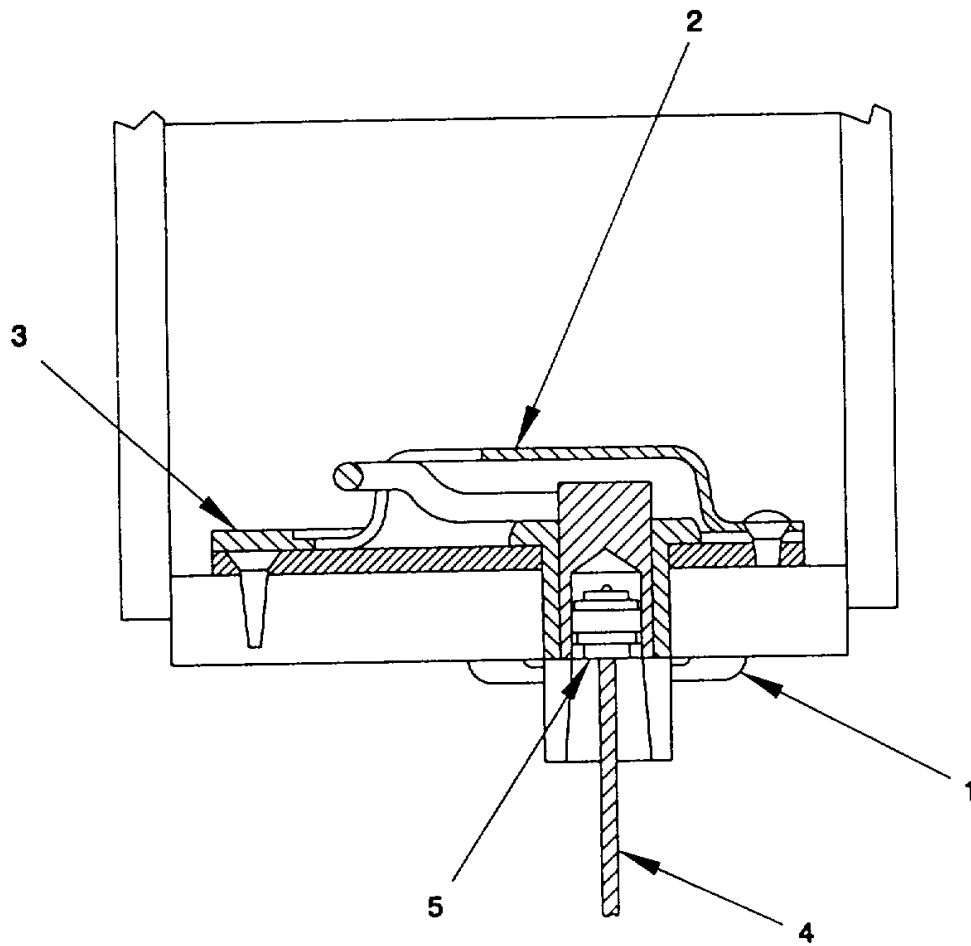

Figure 2-35. Remote Cable Pull Box and Cable, Fire Suppression System, Remove/Install
- a. Remove. (figure 2-35)
- (1) Disconnect the cable operated control head from the 50# CO2 cylinder and disconnect cable from control head. Refer to paragraph 2-41.
- (2) Remove palnut (1) below deck from underside of cable pull box (2).
- (3) Remove three attaching screws (3) on cable pull box (2) above deck, freeing cable pull box and cable
- (4). Lift cable pull box with cable free from recess on deck and discard.
- b. Install. (figure 2-35)
- (1) Attach replacement cable (4) to replacement cable pull box (2) with cable fastener (5).
- (2) Feed cable end into recess opening continuing below deck through all cable pulleys and cable tubes until cable end exits at control head end. Cable pulleys are equipped with removable covers to aid in feeding of cable through system.
- (3) Attach cable pull box (2) to recess bottom with new attaching screws (3).
- (4) Attach palnut (1) to underside of cable pull box (2) below deck.
- (5) Connect cable (4) to control head and reconnect control head to 50# cylinder in accordance with paragraph 2-39.